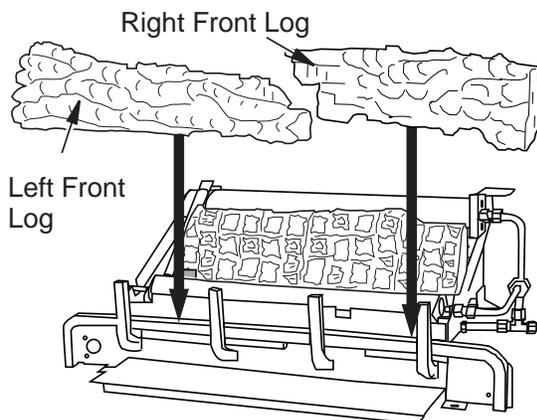

Figure 27 - Installing Left/Right Front Logs
- Place front left (18" D-064, 24" D-057 & 30" D-038) and front right (18" D-065, 24" D-058 & 30" D-039) logs as shown in **Figure 27**.